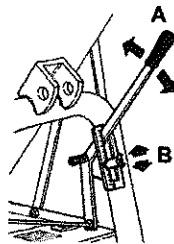

Figure 6
5.3.1 Product spreading adjustment (fig. 6):